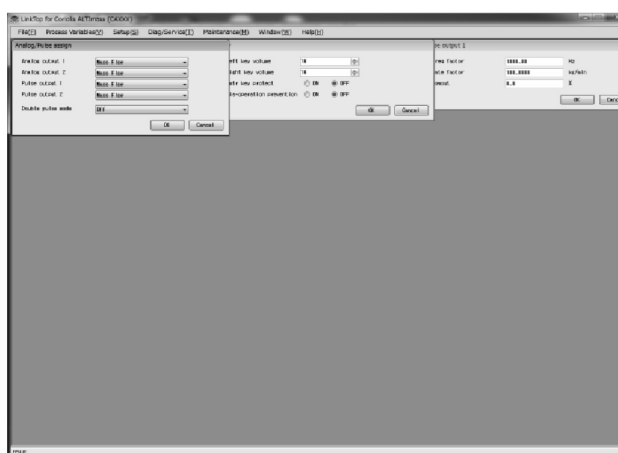

Fig.172
- ③ Select "TileVertical" to display these windows lined up horizontally, as shown in Fig. 172.